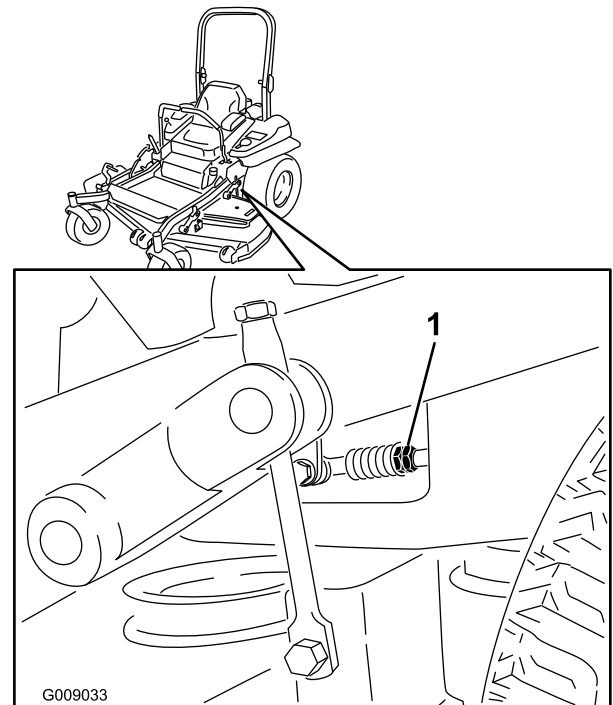

Figure 75
7. Bring the motion control levers into the neutral position. Adjust pump control rod lengths by rotating the double nuts on the rod in the appropriate direction until the wheels slightly creep in reverse (Figure 75). Move the motion control levers to the reverse position and while applying slight pressure to the lever allow the reverse indicator springs to bring the levers back to neutral. The wheels must stop turning or slightly creep in reverse.